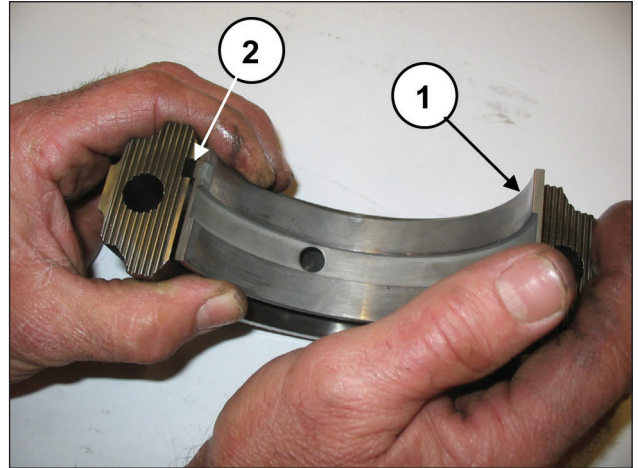

Fig. 59
Apply the lower half-bearings to the caps (pos. ①, Fig. 59) ensuring that the half-bearing reference notches are positioned in their housing on the cap (pos. ②, Fig. 59).